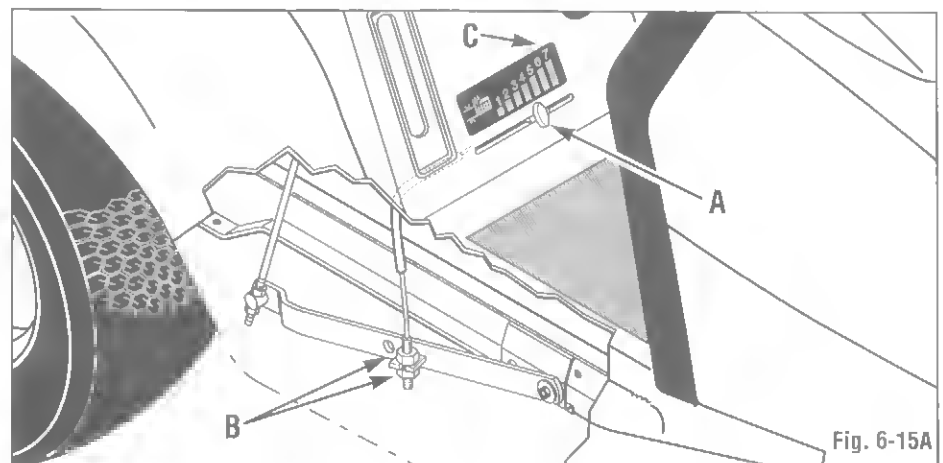

Fig. 6-15A
- Adjust the mower position indicator pointer (A, Fig. 6-15A) by moving the two jam nuts (B) on the position indicator cable located on the right side lift arm.
- Lower and raise the mower deck using the lift handle or electric lift and check that the position indicator pointer (A, Fig. 6-15A) returns to the No. 7 setting when the deck is in the transport position. Readjust jam nuts as necessary.